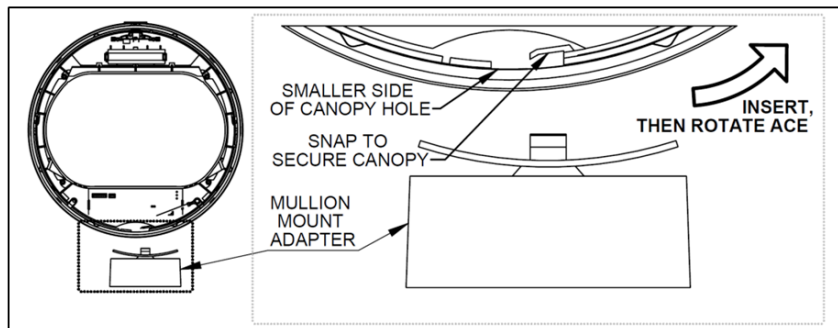

FIGURE 5
10. Insert the mullion mount adapter through the exposed canopy hole until the adapter makes contact with the unit. Lock the ACE onto the mullion mount adapter by rotating the smaller side of the canopy hole towards the pendant mount adapter. Rotate the ACE until the snap engages, preventing any motion out of the hole. (See Figure 5)